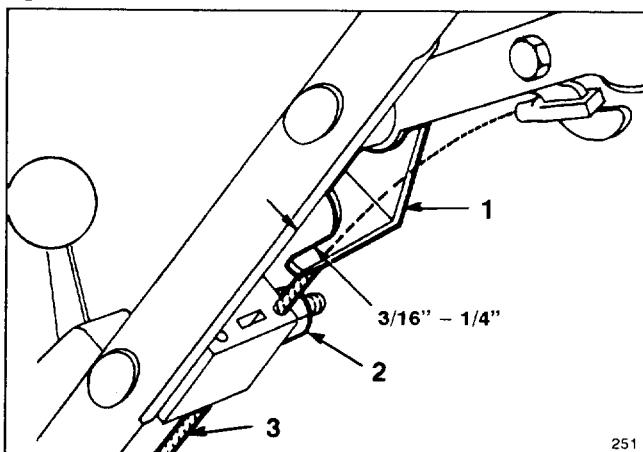

Figure 19
2. CHECK ADJUSTMENT (Fig. 19)—Move control bar toward handle until slack in wire is removed. Gap between brake lever and handle must be $3/16" - 1/4"$. See step 3 for adjustment.
3. ADJUST CABLE CONDUIT (Fig. 19)—Loosen nut on cable bracket. Insert $3/16" - 1/4"$ object between brake lever and handle. Pull down on cable conduit until all slack is removed from wire. Then tighten nut.